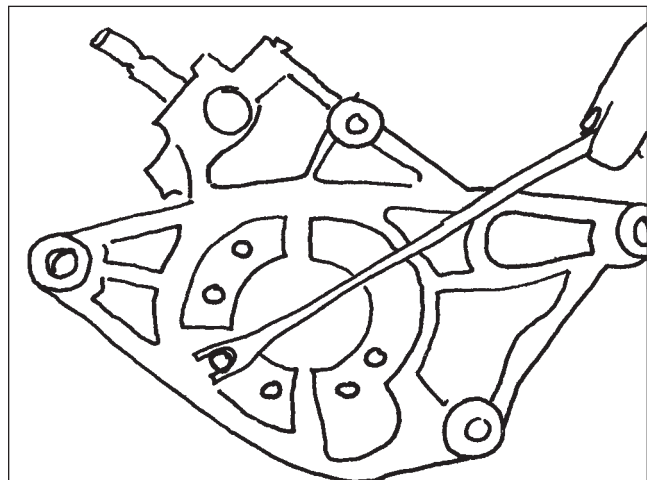

Figure 146
24. Attach the mounting bracket to the gear housing using the attaching bolts, and torque to manufacturer's specifications (Figure 146) (if equipped).